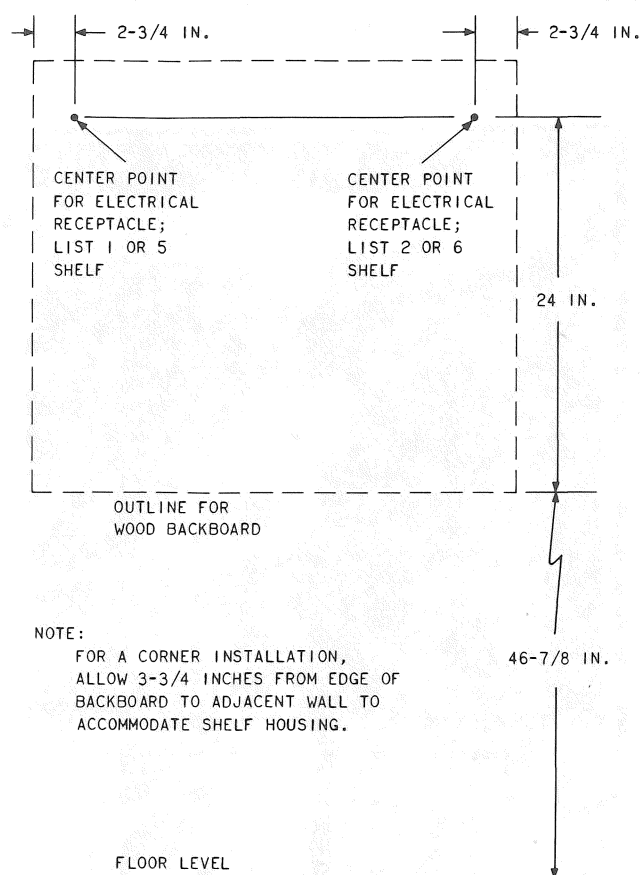

Fig. 8—Locating The Hole For Electrical Receptacle Behind Backboard
(2) *Locate the center point for the electrical receptacle per Fig. 8.*
(a) Lay out and mark locations on the backboard for drilling mounting holes. Ensure that backboard is positioned correctly for the list number housing being installed. Backboard shall be 46-7/8 inches from floor (Fig. 8).